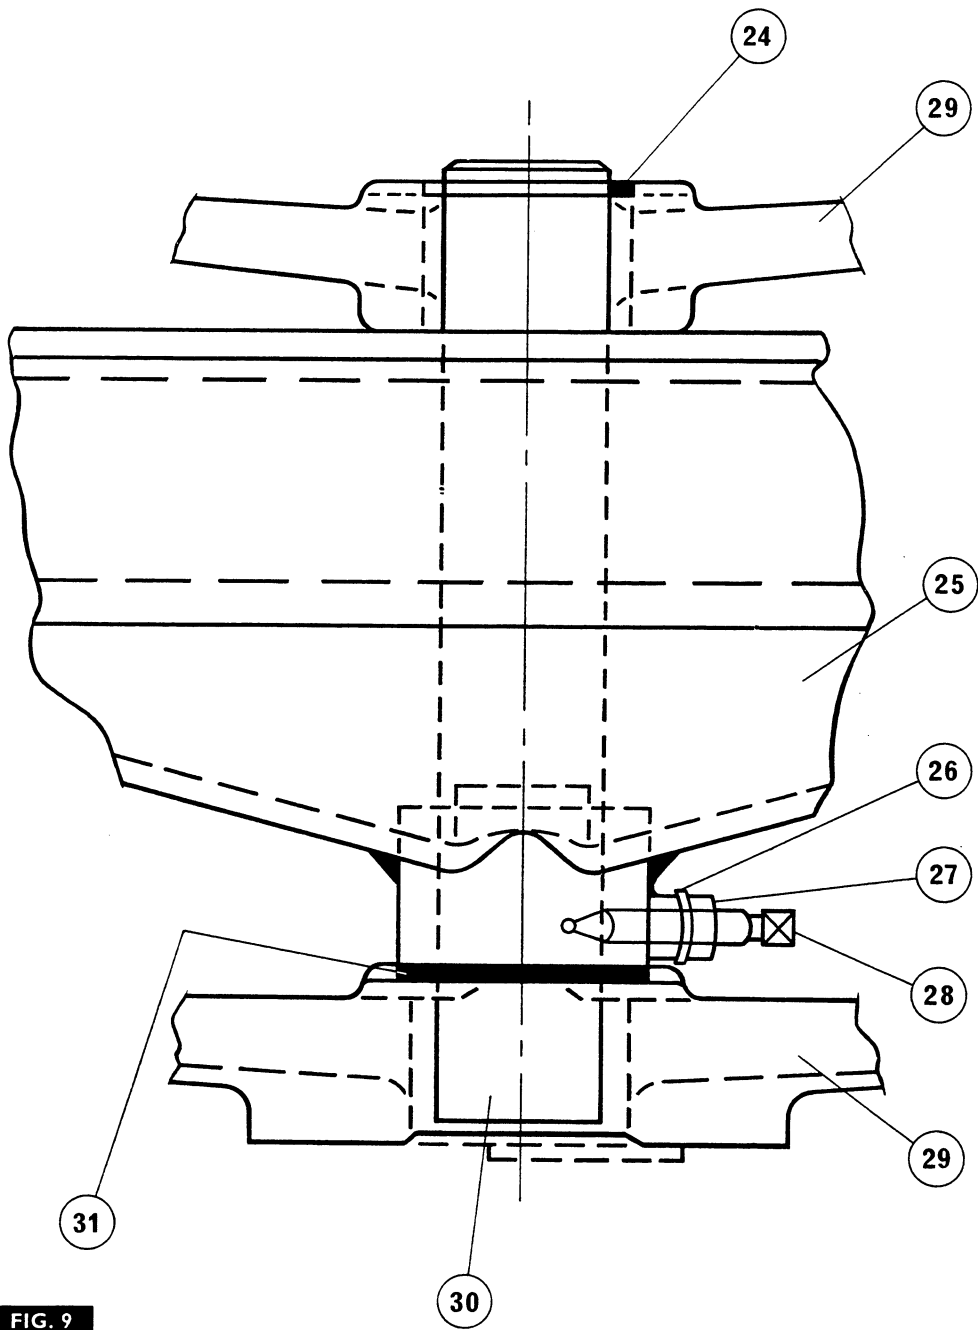

FIG. 9
5. Remove the bolt (2) nut and washers securing each power steering ram bracket to the centre beam (power steering tractors only).
**NOTE – DO NOT REMOVE THE BOLT (5) SECURING EACH RAM BRACKET TO THE OUTER AXLE ARMS.**
7. Fig. 9. Remove the circlip (24), peg bolt (28), nut (27) and washer (26) securing the pivot pin (30).
8. Fit a  $\frac{7}{16}$  UNC bolt into the front of the pivot pin (30).
9. With one operator each side supporting the centre beam (25), withdraw the pivot pin (30).
10. Lift the centre beam clear of the axle support (29) and remove the shims (31).